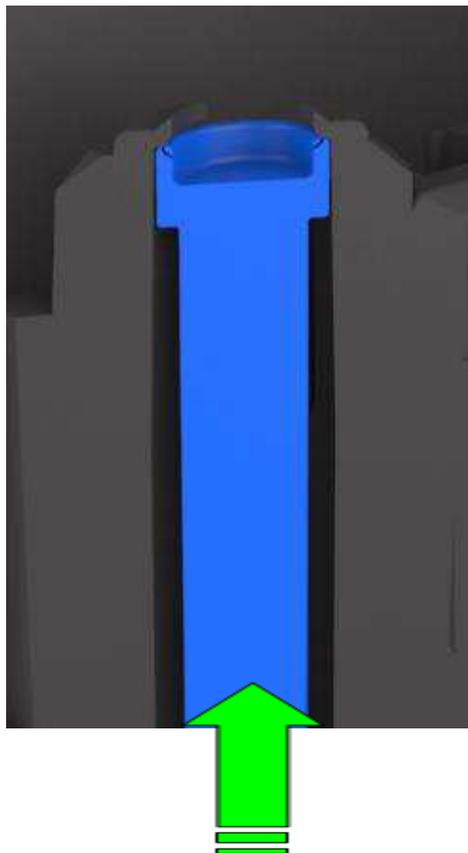

Figure 47
1. Push the seal plug forward until it stops. See Figure 47.